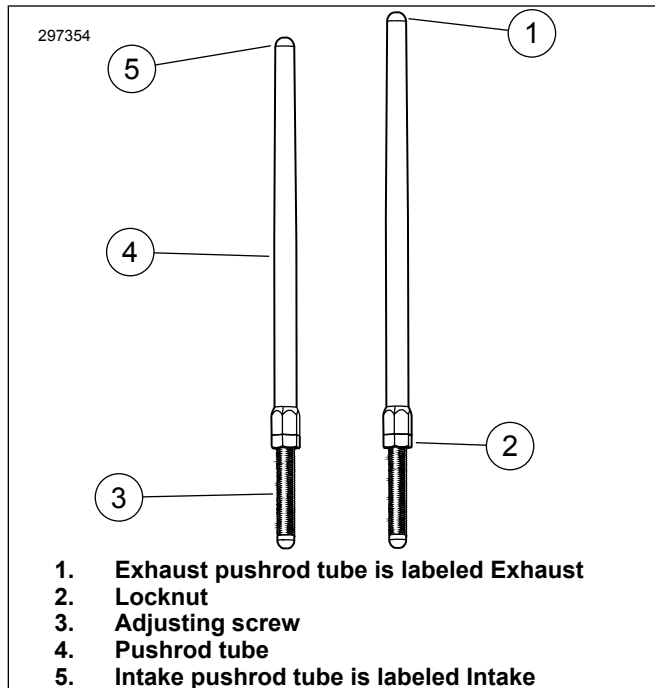

Figure 3. Adjustable Pushrod
6. Figure 3 Loosen locknut on all of the pushrods and adjust them to their shortest length.